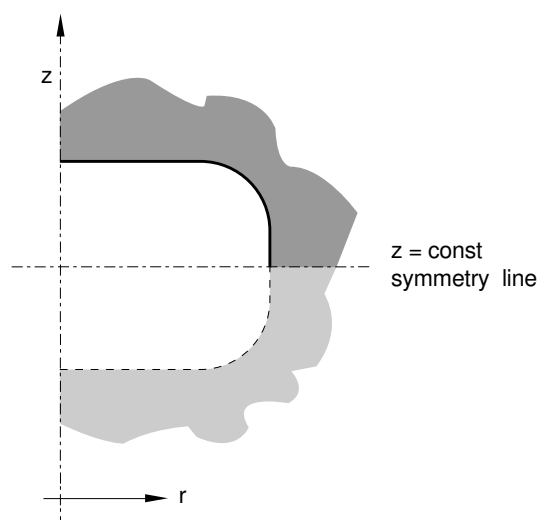

Figure 3: *REFLECTION, TYPE=ZCONST option.
Set TYPE=ZCONST to create a cavity composed by the cavity surface defined in the model and its reflection through a line of constant z -coordinate. See *Figure 3*. This option can be used only for axisymmetric cases.
1. z -coordinate of symmetry line (see Figure 3).